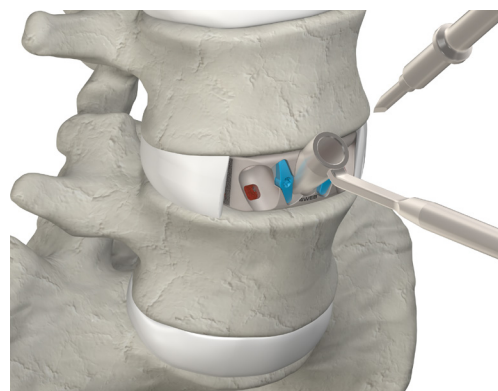

Figure 32
- ▲ Insert the desired Freehand Guide into the screw hole of the implant. Insert the distal end of the awl through the Freehand Guide and apply axial force to the handle to puncture the cortical bone of the vertebral body (Fig. 32).